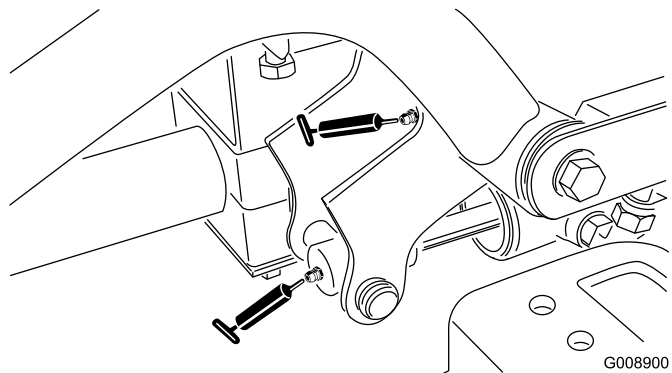

Figure 53
- Right front lift arm pivot and lift cylinder (2) (Figure 53)